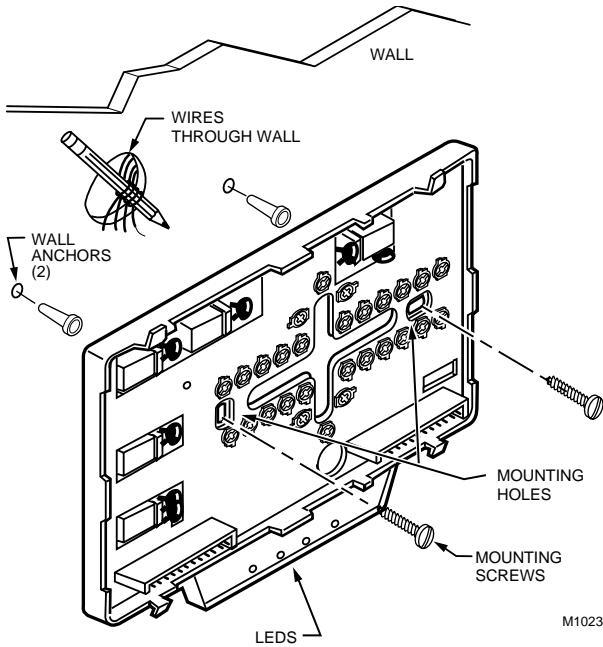

Fig. 9. Mounting subbase or wallplate.
2. Use a pencil to mark the mounting holes. See Fig. 9.